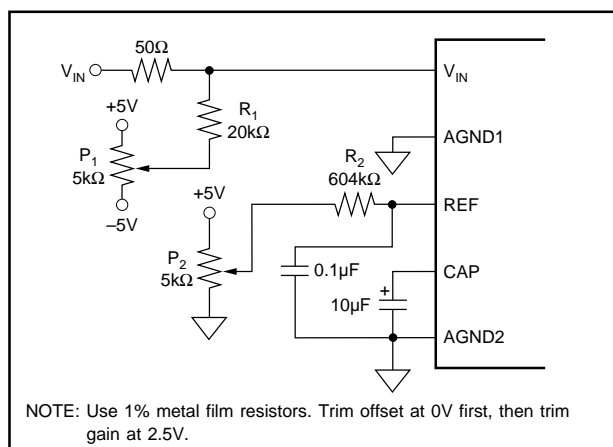
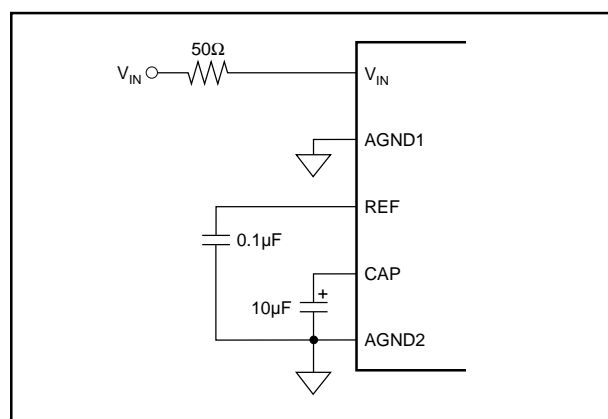
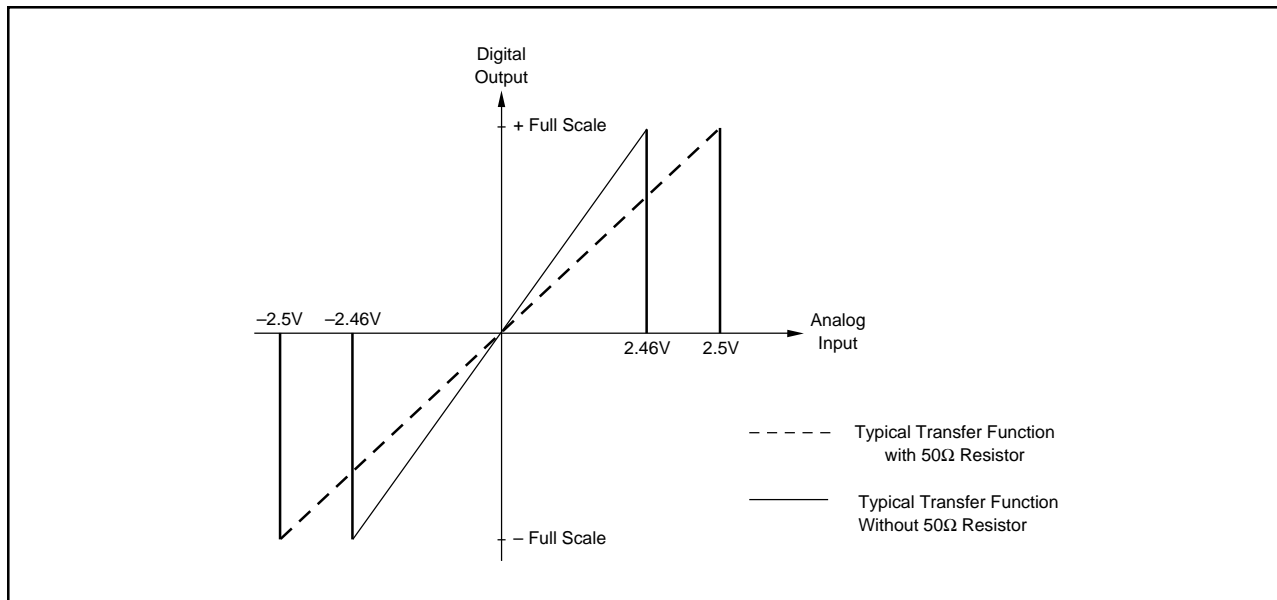

FIGURE 4a. Circuit Diagram With External Hardware Trim.
FIGURE 4b. Circuit Diagram Without External Hardware Trim.
FIGURE 5. Circuit Diagram With and Without External Resistors.
T = +25°C,  $f_S = 800\text{kHz}$ ,  $+V_{\text{DIG}} = +V_{\text{ANA}} = +5\text{V}$ ,  $-V_{\text{ANA}} = -5\text{V}$ , using internal reference and the input  $50\Omega$  resistors as shown in Figure 4b, unless otherwise specified.
T = +25°C,  $f_s = 800\text{kHz}$ ,  $+V_{\text{DIG}} = +V_{\text{ANA}} = +5\text{V}$ ,  $-V_{\text{ANA}} = -5\text{V}$ , using internal reference and the 50Ω input resistors as shown in Figure 4b, unless otherwise specified.
The ADS7819 has a  $\pm 2.5V$  input range. Figures 4a and 4b show the necessary circuit connections for the ADS7819 with and without external hardware trim. Offset and full scale error(1) specifications are tested and guaranteed with the 50 $\Omega$  resistor shown in Figure 4b. This external resistor makes it possible to trim the offset  $\pm 12mV$  using a trim pot or trim DAC. This resistor may be left out if the offset and gain errors will be corrected in software or if they are negligible in regards to the particular application. See the **Calibration** section of the data sheet for details.
To calibrate the offset and gain of the ADS7819, install the proper resistors and potentiometers as shown in Figure 4a. The calibration range is  $\pm 12\text{mV}$  for bipolar zero and  $\pm 30\text{mV}$  for full scale.
See Figure 4b for circuit connections. Note that the actual voltage dropped across the  $50\Omega$  resistor is nearly two orders of magnitude lower than the voltage dropped across the internal resistor divider network. This should be taken into consideration when choosing the accuracy and drift specifications of the external resistors. In most applications, 1% metal-film resistors will be sufficient.
The external  $50\Omega$  resistor shown in Figure 4b may not be necessary in some applications. This resistor provides trim capability for the offset and compensates for a slight gain adjustment internal to the ADS7819. Not using the  $50\Omega$  resistor will cause a small gain error but will have no effect on the inherent offset error. Figure 5 shows typical transfer function characteristics with and without the  $50\Omega$  resistor in the circuit.